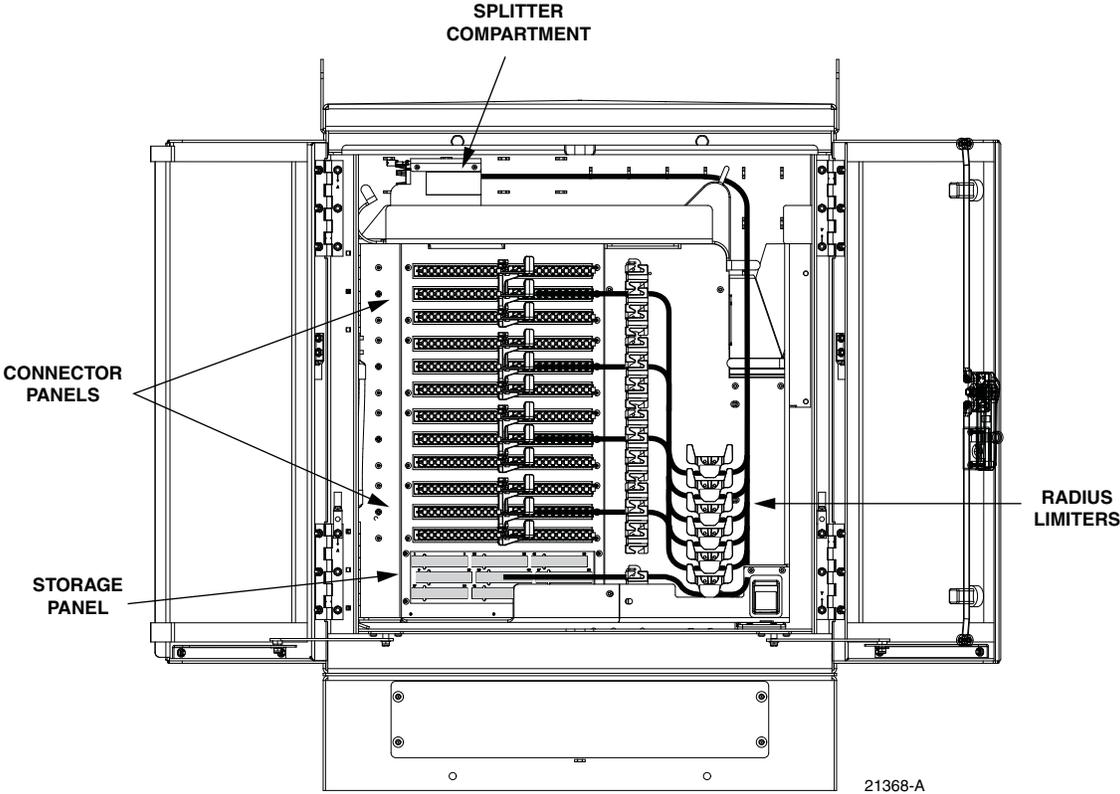

Figure 5. Routing Splitter Output Fibers
2. Observe an already installed splitter to see how the splitter output fibers are routed from the splitter to the connector storage panel. Use the radius limiters on the right side of the cabinet to store any excess fiber slack. Refer to Figure 5 for the additional routing guidelines.
6. Use the radius limiters on the right side of the cabinet to store any excess fiber slack. Refer to Figure 5 for the routing guidelines.